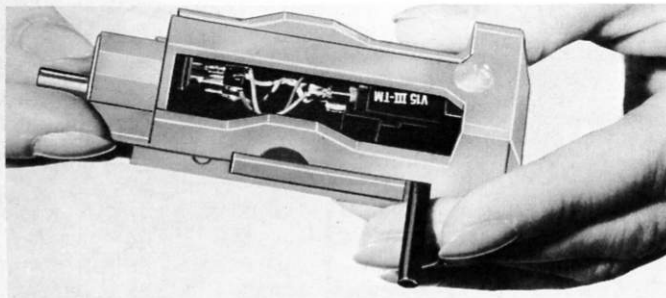

fig. 9
4. By help of the adjustment screw, regulate now so that the needle point coincides exactly with the crosslines in the lens (fig. 9). Finally, the screw C is tightened.